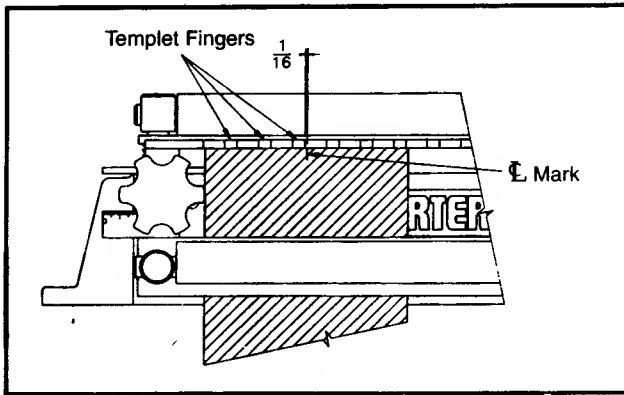

Fig. 40
3. Mark center of board to be routed and slide under front clamp, up against underside of templet, locating centerline mark $\frac{1}{16}$ " (Fig. 40) to the right of a templet finger. Clamp securely.